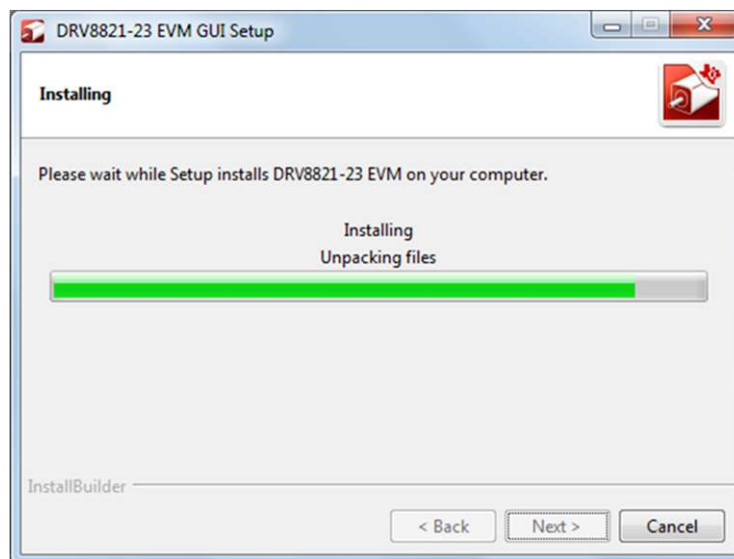

Figure 12. LabVIEW RTE Self Extraction
10. Once the Download completes, LabVIEW begins with the self-extraction as shown in Figure 12.